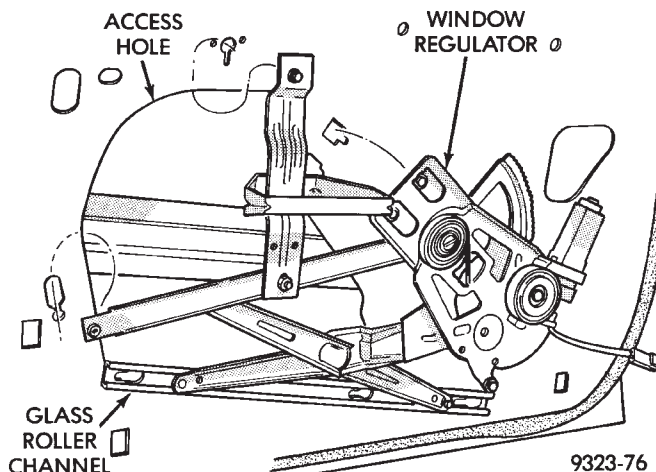

Fig. 31 Window Regulator
- (1) Remove door trim panel.
- (2) Separate glass from regulator roller channel.
- (3) Disengage power window motor wire connector, if equipped.
- (4) Loosen screw holding regulator scissor channel to door panel.
- (5) Loosen bolt holding regulator support brace to door panel.
- (6) Separate screw and bolt heads from keyhole slots in door panel.
- (7) Loosen bolts holding regulator to door panel.
- (8) Separate regulator from door panel.
(9) Slide regulator rearward and rotate forward end of roller channel through access hole in door panel (Fig. 31).